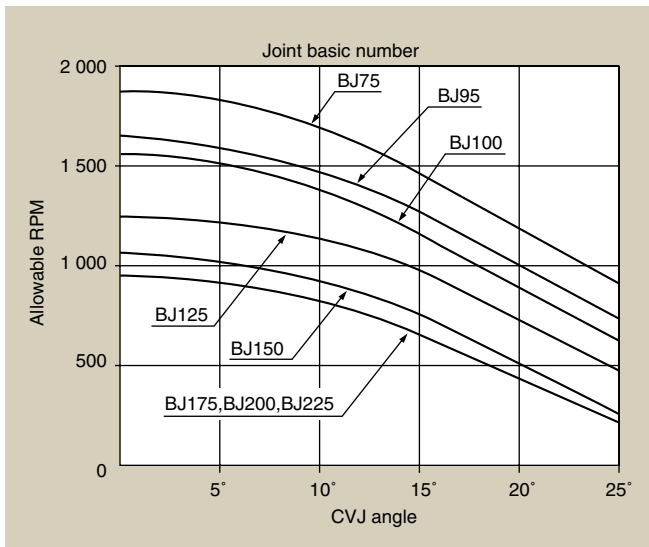

Fig. 12 Joint angle versus allowable RPM
1. When considering the durability of the boots, check that the RPM in **Fig. 12** is within the joint angle limitation.